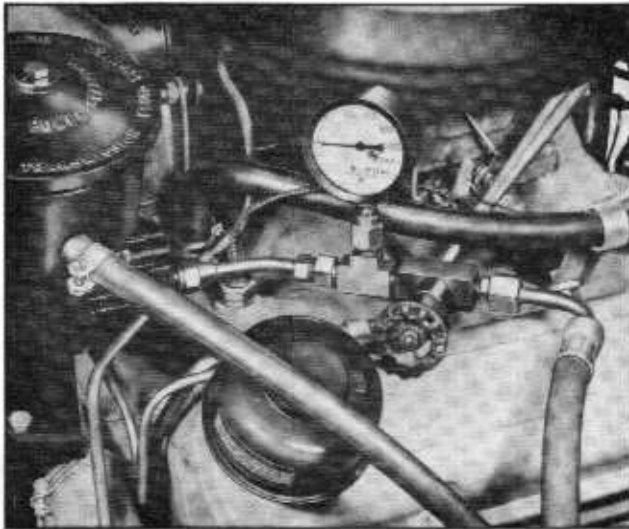

Fig. 9-86 Pressure Gauge Installed Between Pump and Gear
1. Install pressure gauge in pressure line between pump and gear and turn valve to open position. NOTE: Use pressure gauge J-5176 (Fig. 9-86) for 1200 lb. pressure reading. Mark gauge face below 1000 lb. reading with a line using same distance between 800 and 1000 pound reading. Divide this distance with a line showing 1100 first line and 1200 second line.